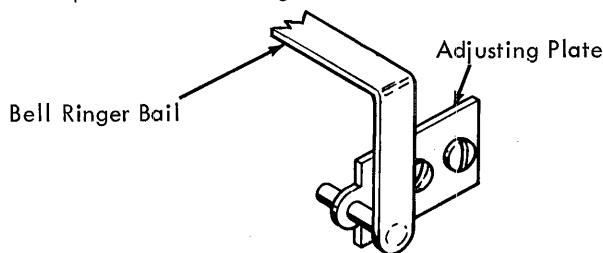

FIGURE 250. Bell Ringer Bail Adjusting Plate
5. Bell Ringer Bail Adjusting Plate (Fig. 250, Late) - Position the adjusting plate so that the bellringer bail is parallel to the margin rack.